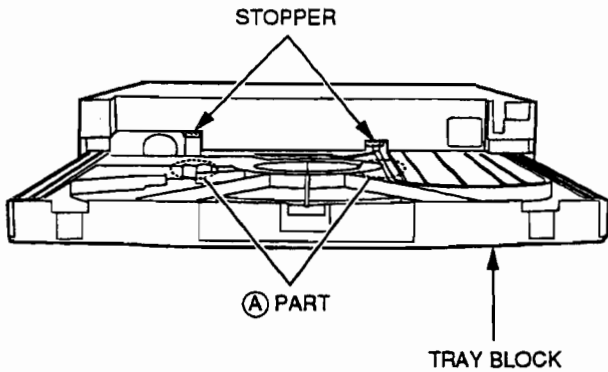

Fig. 3-10
2) In order to disengage the two stoppers, carefully press the Ⓐ part of the TRAY BLOCK downwards while pulling the TRAY BLOCK out as shown in Fig. 3-10.